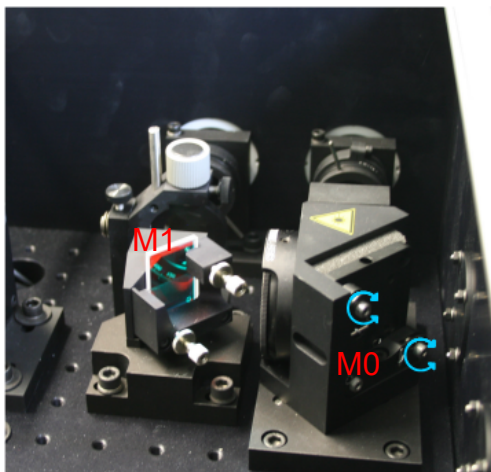

Fig. 4.1: Mirror 0 (M0) in the STED beam path with its adjustment screws marked (blue arrows)
7. Adjust mirror 0 (M0) of the STED beam path until the displacement from the center is twice as large as previously observed, then return to step 5. (see Fig. 4.1)